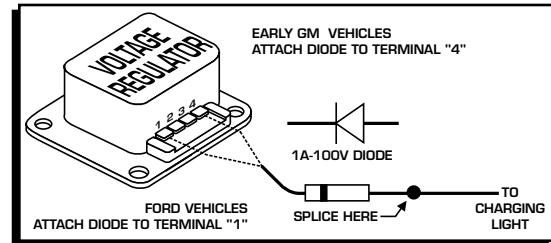

Figure 3 Installing the diode to a GM or Ford Vehicle.
**Note:** Diodes are used to allow voltage to flow only one way. Make sure the Diode is installed facing the proper direction (as shown in Figure 3).